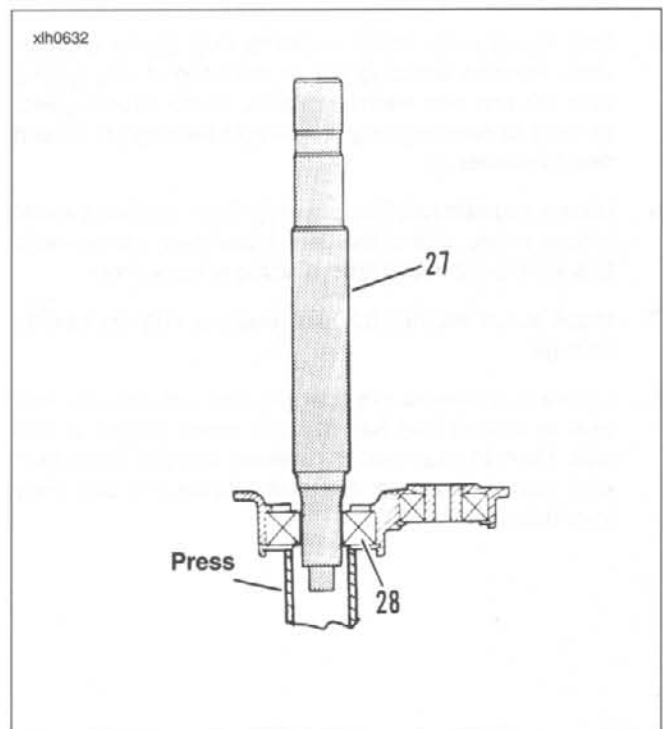

Figure 6-44.
1. Find a section of pipe that matches the inner race of mainshaft bearing (28). See Figure 6-44. Place the door assembly, outside downward, on a press with the inner race of bearing (28) resting on the section of pipe. Insert the splined end of the shaft through the bearing and hold in a vertical position. Press the shaft into the bearing until the bearing bottoms against the shaft shoulder.